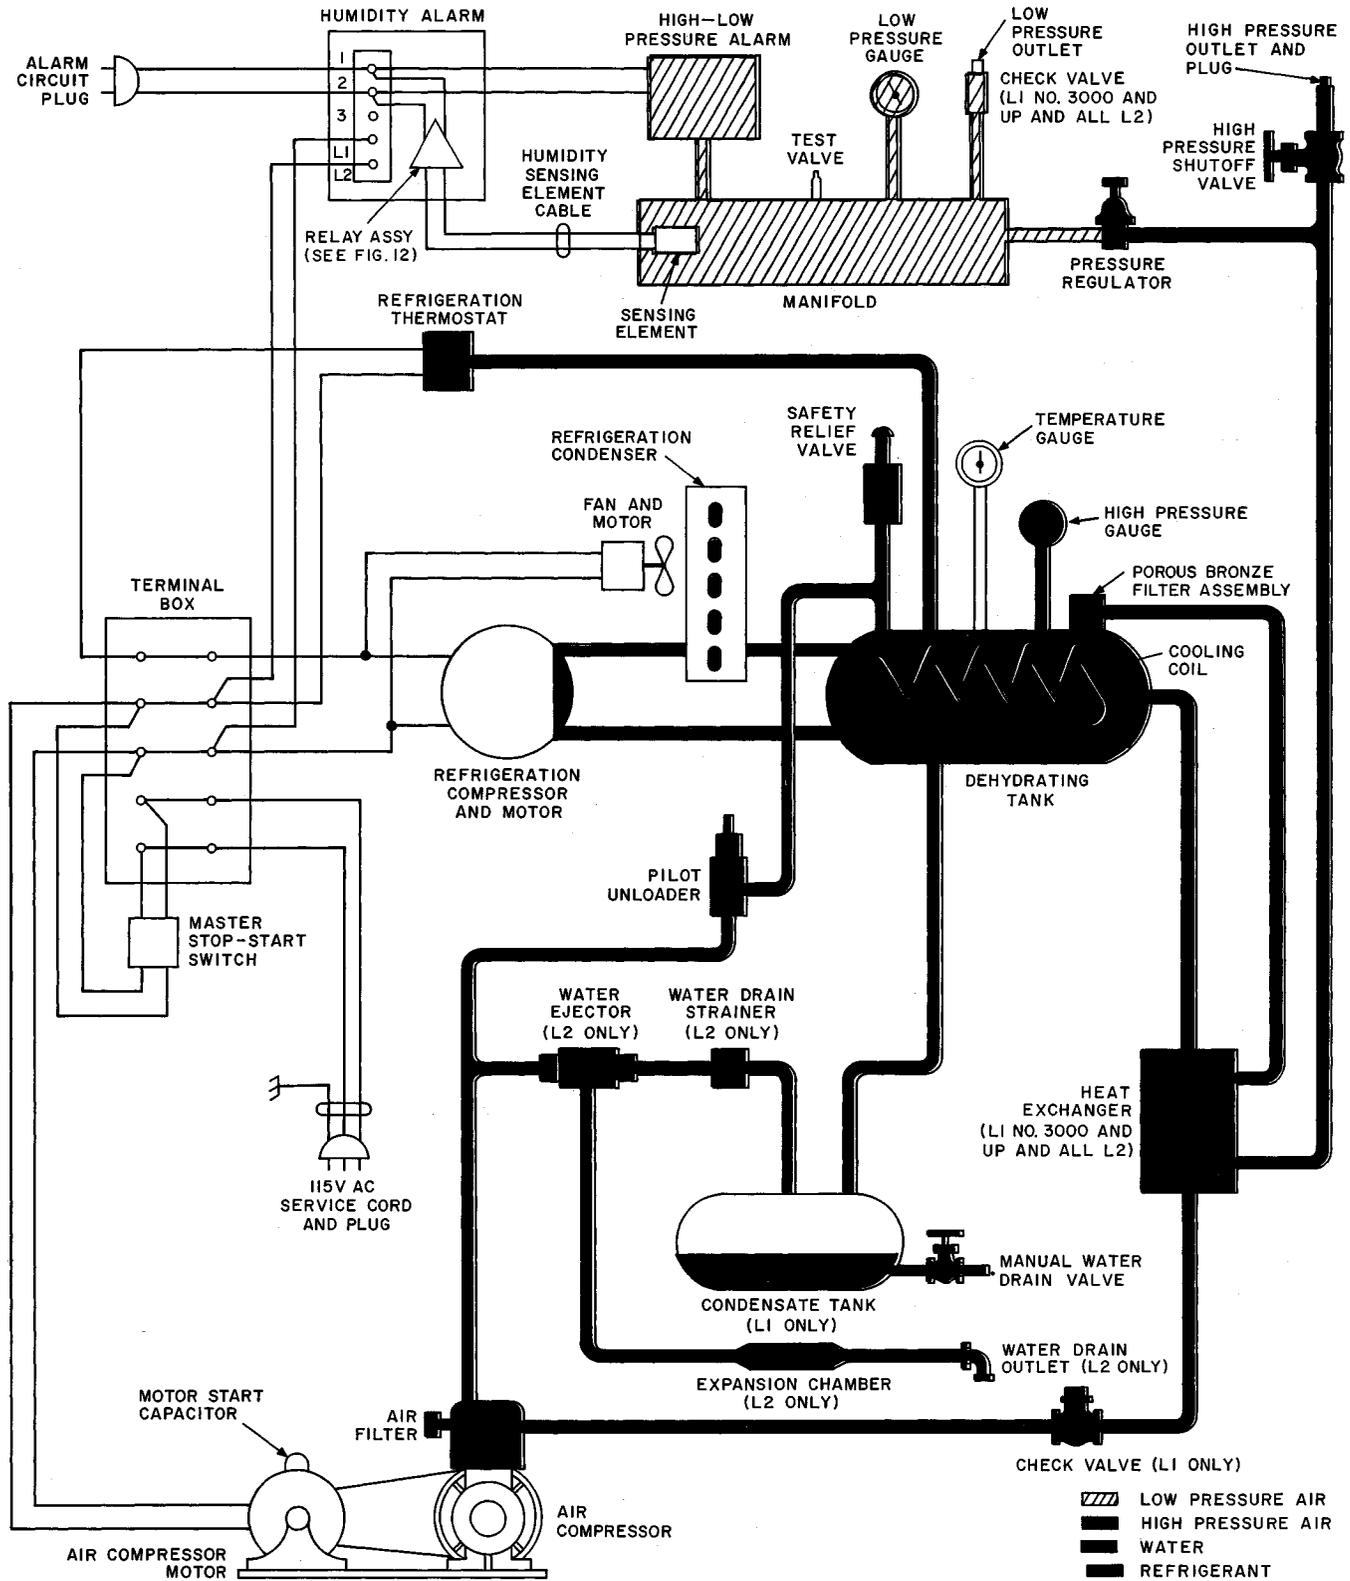

Fig. 4—KS-16432 Type Air Dryer—Block Diagram of Air Flow and Wiring
- (a) The cabinet is grounded by one conductor in a 3-conductor service cord (Fig. 4).
- 3.01** A schematic of the air flow, refrigeration system, and electrical system is shown in Fig. 4.